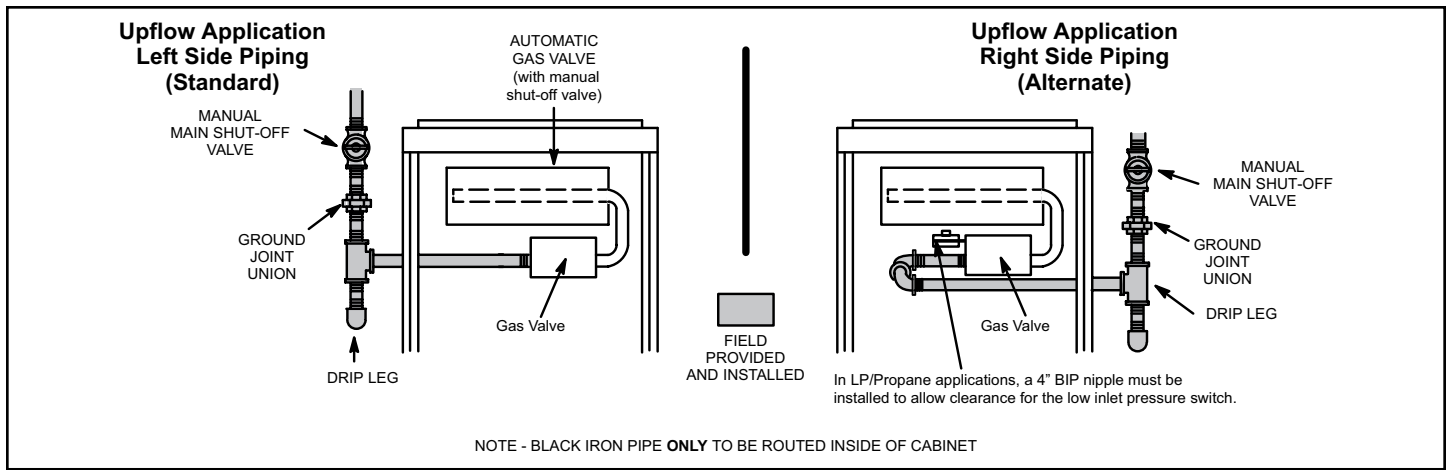
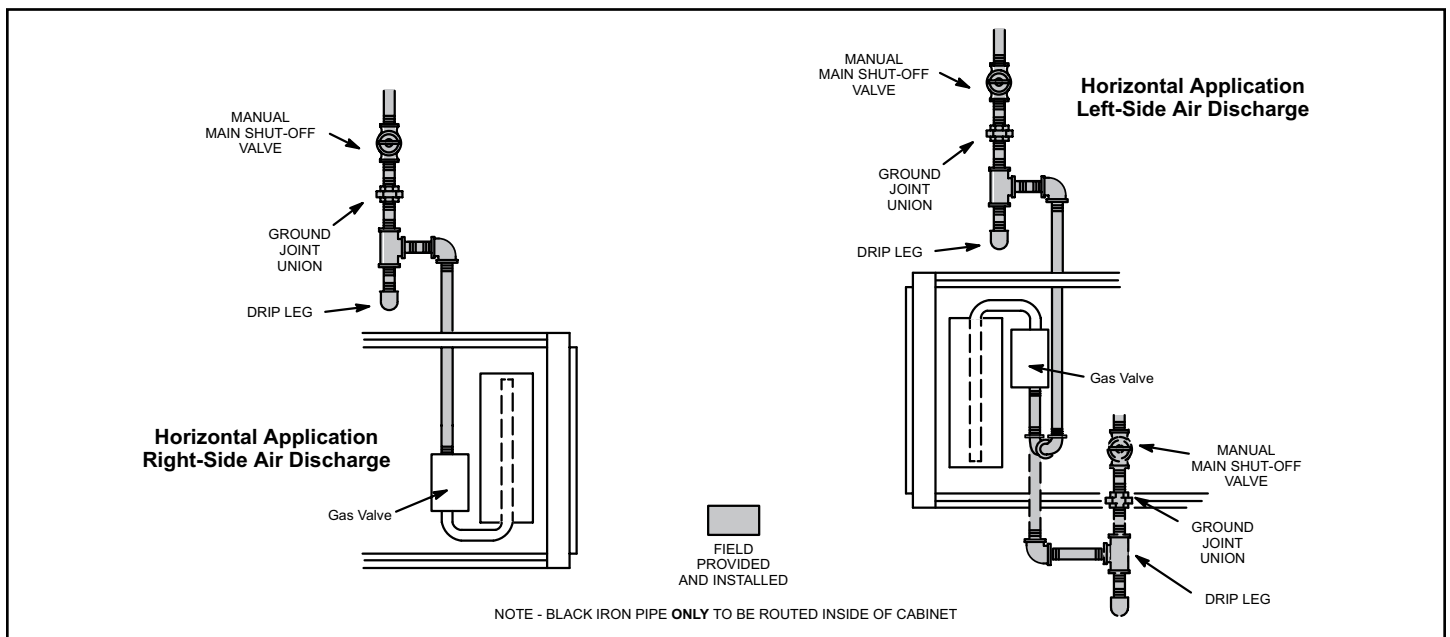

Figure 60. Upflow Applications Possible Gas Piping Configurations
Figure 61. Horizontal Applications Possible Gas Piping Configurations
1. Gas piping may be routed into the unit through either the left or right hand side. Supply piping enters into the gas valve from the side of the valve as shown in Figure 60 and Figure 61.
3. Gas piping must not run in or through air ducts, clothes chutes, chimneys or gas vents, dumb waiters or elevator shafts. Center gas line through piping hole. Gas line should not touch side of unit. See Figure 60 and Figure 61.